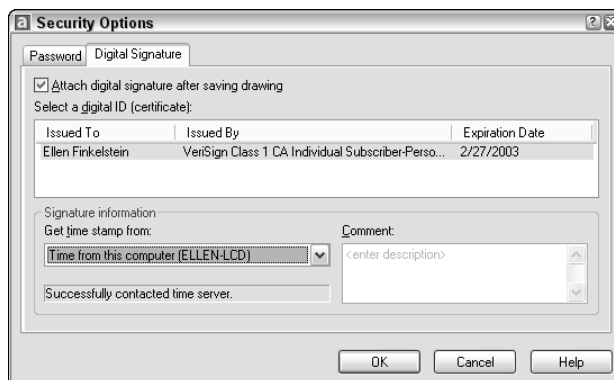

Figure 26-26: The Digital Signatures tab of the Security Options dialog box
1. Choose Tools ⇨ Options and click the Open and Save tab. Click Security Options and then the Digital Signatures tab, shown in Figure 26-26.